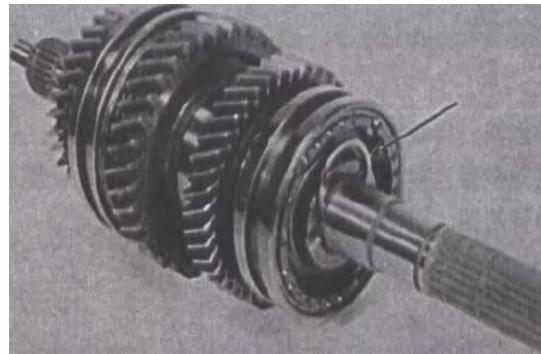

Fig 10-64
(7) Fit reverse hub circlip into groove in main shaft. (Fig 10-64).